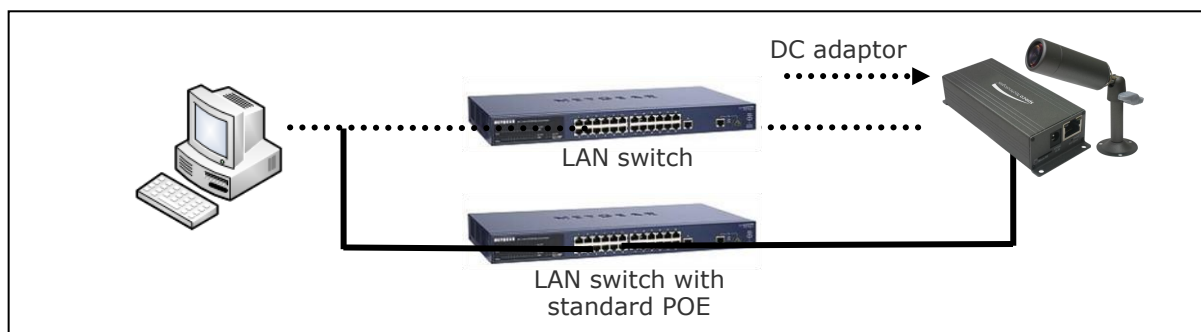

Figure 4-1. Power and network connection
2. In the case of using PoE, connect the PC and O2MB1 to the network using one of the following ways. If your LAN Switch does not support standard PoE, connect O2MB1 as shown in dotted line in Figure 4-1.